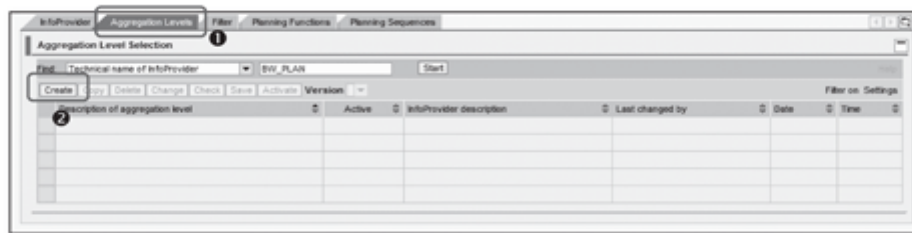

Figure 12.30 Create a New Aggregation Level
1. Go to the AGGREGATION LEVEL tab of the Planning Modeler, and click on CREATE to create a new aggregation level. (Figure 12.30). A pop-up screen appears.